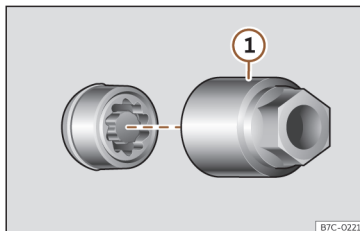

Fig. 41 Anti-theft wheel bolt with cap and adapter.
- Insert the special adapter >>> Fig. 41 ① (vehicle tools >>> page 45) onto the anti-theft wheel bolt and push it on as far as it will go.